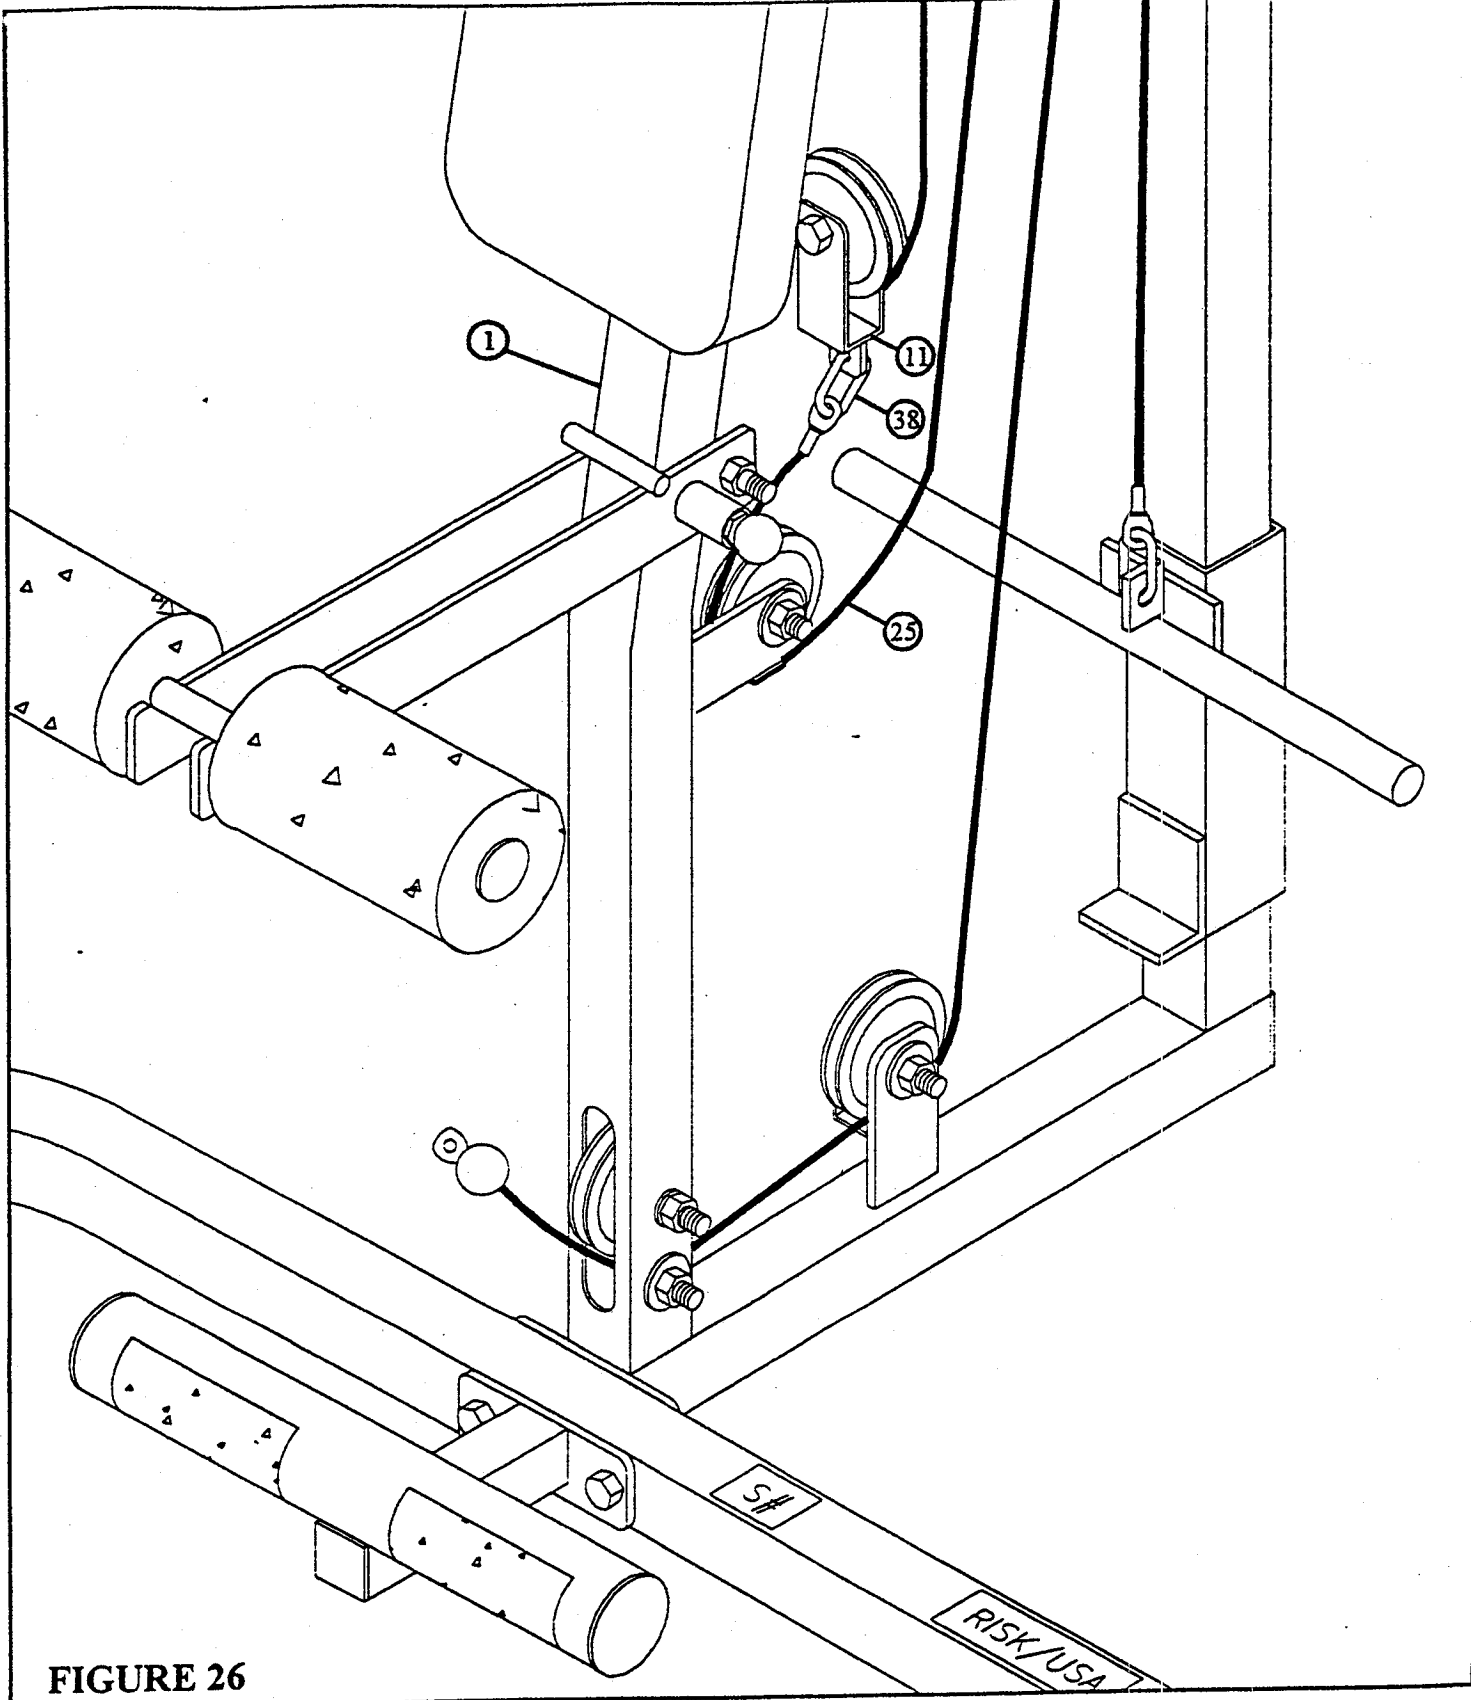

FIGURE 26
- Route CABLE (25) around PULLEY and under the CABLE RETAINING CLIP on FRONT UPRIGHT (1) as shown in FIGURE 26.
- Attach the CABLE (25) to the PULLEY BRACKET (11) using one QUICK LINK (38) as shown in FIGURE 26.
- **SECURELY** tighten the two PULLEYS assembled between the two 1-3/4 X 5-1/4" PLATES (17).